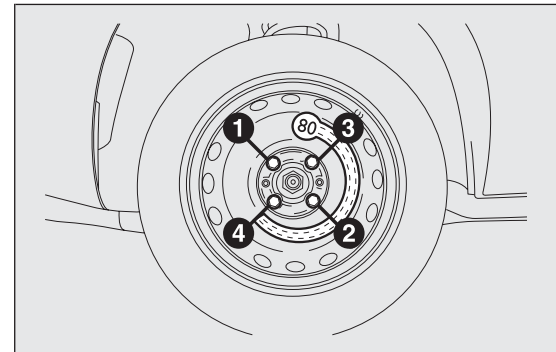

fig. 147
- use the wrench provided to fully tighten the bolts, passing alternately from one bolt to the opposite one, as per the numerical sequence illustrated in fig. 147.
- using the wrench provided, fully tighten the bolts in the sequence shown in diagram fig. 147;
- using the wrench provided, fully tighten the bolts in the same sequence shown previously for the space-saver wheel (see fig. 147);